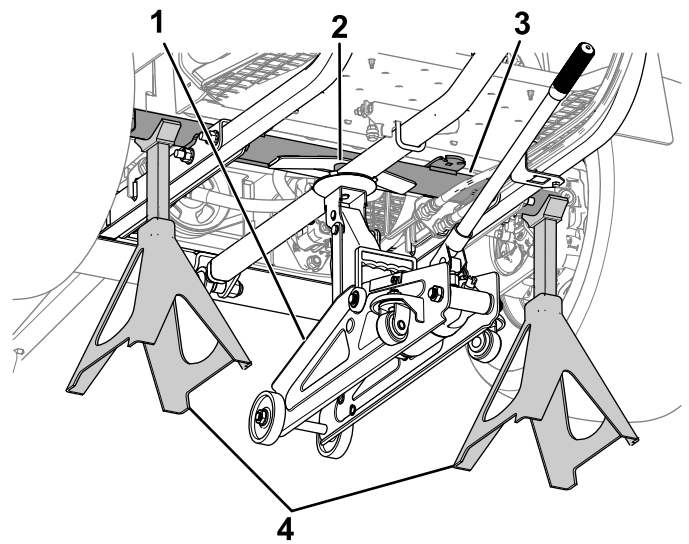

Figure 70
- Left and right sides—under the rear tube of the frame assembly behind the wheel motors (Figure 70).